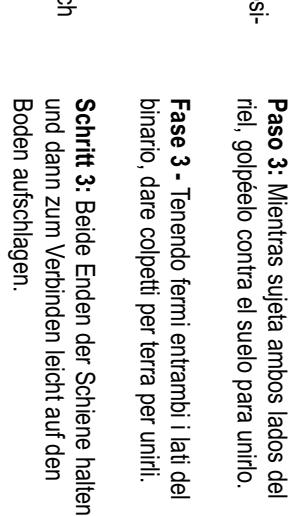

fig 3
Step 3: Holding both sides of rail, tap on ground to join (Fig3).